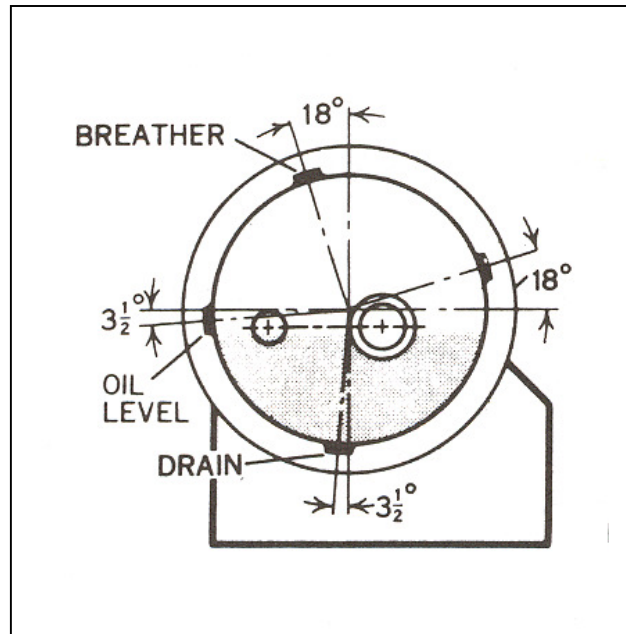

Fig. 601-4
3. Locate breather, oil level and drain plugs as shown in Fig. 601-4 when viewing input shaft.